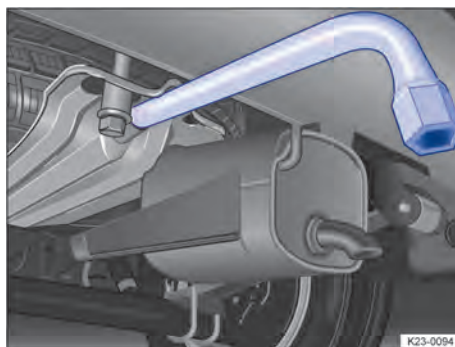

Fig. 222 Underneath the vehicle: spare wheel bracket with box spanner inserted
3. Fit the box spanner in the bracket → Fig. 222.
2. Fit the box spanner in the bracket → Fig. 222.